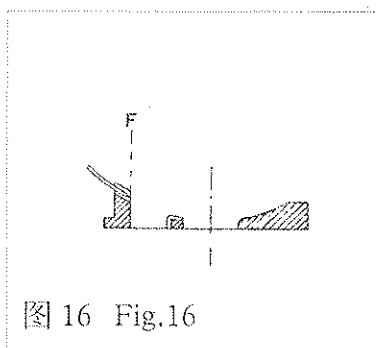

图 16 Fig.16
(3)机针左极限位置 机针的左右位置以左极限为基准,要求机针在左极限时,针尖与针板左导槽的右侧面“F”平齐为机针的标准基准位置(图16)。
Left limit shall be taken as a frame of reference. When the needle is at the left limit, needle point shall be flush with the right side "F" of the left needle guide groove of needle plate (Fig.16).